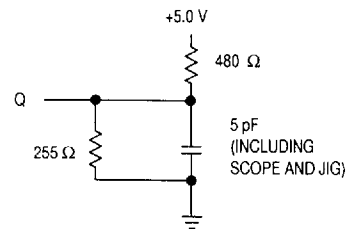

Figure 1B.
6. Transition is measured ± 500 mV from steady-state voltage with load of Figure 1B.
7. Transition is measured ± 500 mV from steady-state voltage with load of Figure 1B.